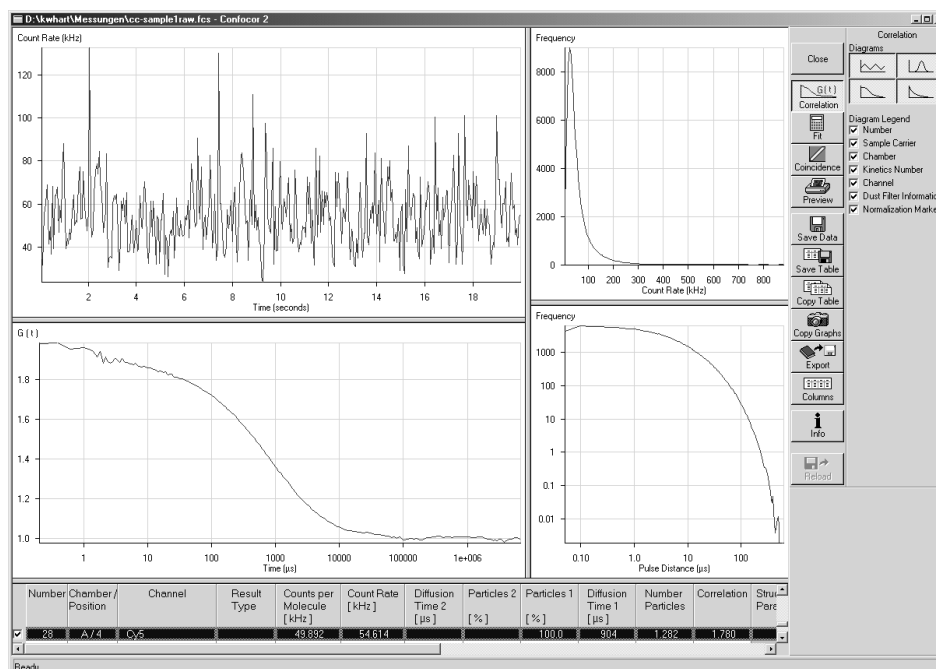

Fig. 5-365 Data evaluation window
The data evaluation window (Fig. 5-365) of the FCS software part corresponds to the basic structure of other Microsoft® WINDOWS applications.
- The **Data Evaluation** window will appear (Fig. 5-365).
- The **Correlation** display toolbar will appear to the right of the **Data Evaluation** window (Fig. 5-365).